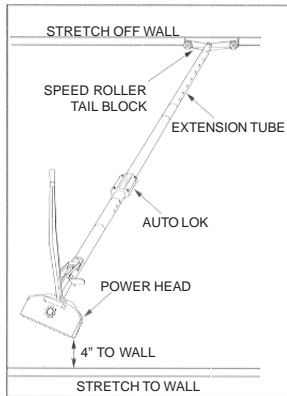

Figure 1
A. Place Power Head 4 inches from starting wall at the prescribed angle for the kind of carpet you are installing. (See figure 1.) See stretch pattern diagram below for general rules, but always follow the carpet manufacturer's recommendations.